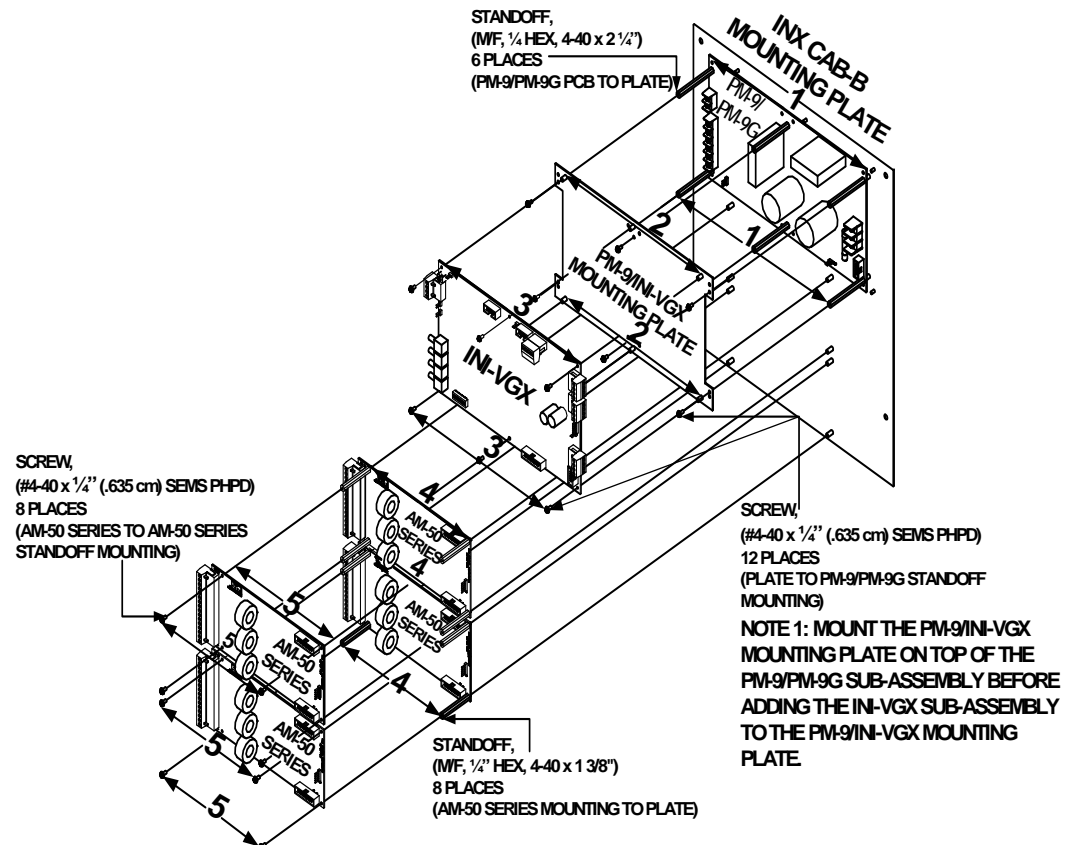

Figure 2.9.2.1 INX CAB-B Mounting Plate Installation
1. Mount the PM-9/PM-9G sub-assembly in the six-hole mounting pattern on the top part of the INX CAB-B Mounting Plate and secure using the standoffs (M/F, 1/4" HEX, 4-40 x 2 1/4") as shown in Location 1 of Figure 2.9.2.1.
2. Position the PM-9/INI-VGX Mounting Plate over the six (6), mounting studs on top of the PM-9/PM-9G sub-assembly.
3. Mount the PM-9/INI-VGX Mounting Plate on top of the PM-9/PM-9G sub-assembly and secure with six (6) screws, (#4-40 x 1/4" (.635 cm) SEMS PHPD) in the six-hole mounting pattern as shown in Location 2 of Figure 2.9.2.1.
4. Mount the INI-VGX sub-assembly on top of the PM-9/INI-VGX Mounting Plate and secure with six (6) screws, (#4-40 x 1/4" (.635 cm) SEMS PHPD) in the six-hole mounting pattern as shown in Location 3 of Figure 2.9.2.1.
7. Mount the first set of the two (2) AM-50 Series amplifiers over the PEM standoffs on the INX CAB-B Mounting Plate and secure with eight (8), standoffs (M/F, 1/4" (.635 cm) HEX, 4-40 x 1.38") in the eight-hole mounting pattern as shown in Location 4 of Figure 2.9.2.1.
8. Mount the second set of the two (2), AM-50 Series amplifiers on top of the first set of the two (2), AM-50 Series amplifiers, and secure with eight (8) screws, (#4-40 x 1/4" (.635 cm) SEMS PHPD) into the eight (8), standoffs as shown in Location 5 of Figure 2.9.2.1.